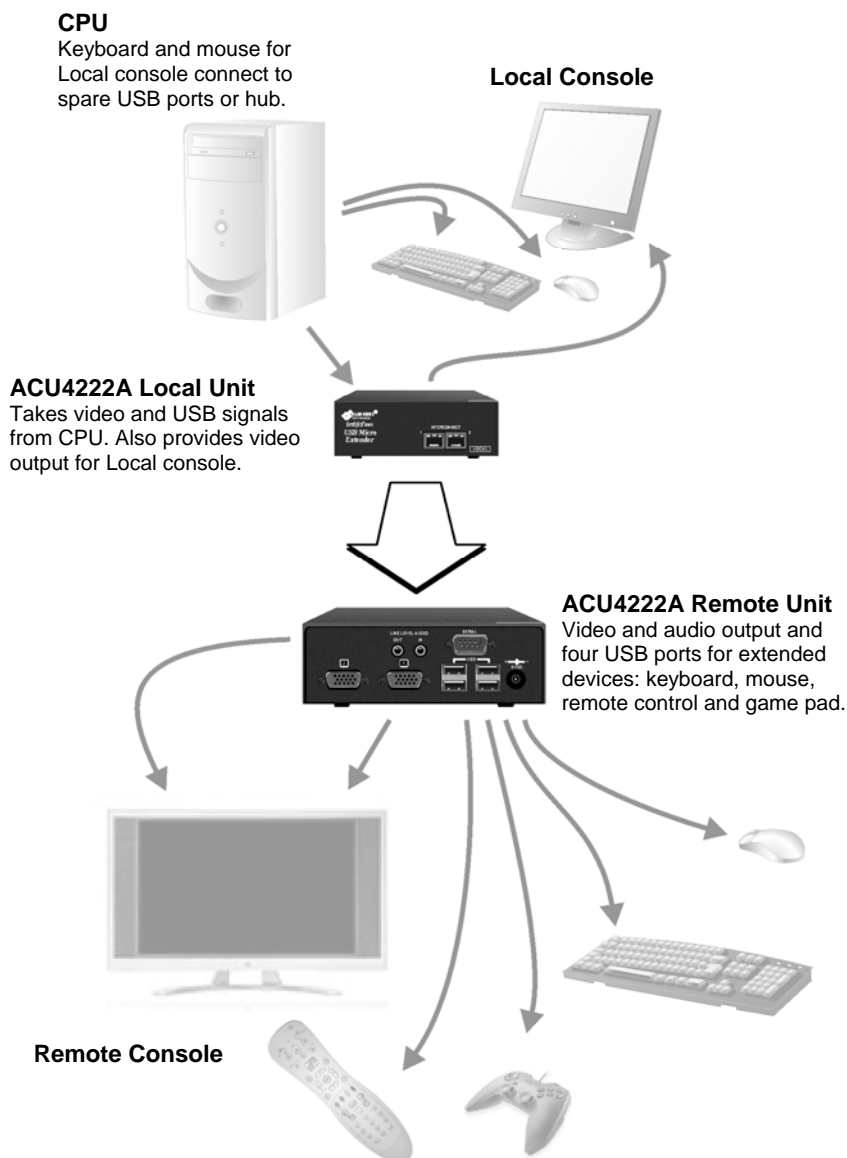

Figure 8
- ACU4222A configured for home entertainment system with extension of USB devices (remote control, game pad, keyboard and mouse) and video (Figure 8). Use of USB Micro Extender allows clutter and noise of CPU to be removed from viewing area.